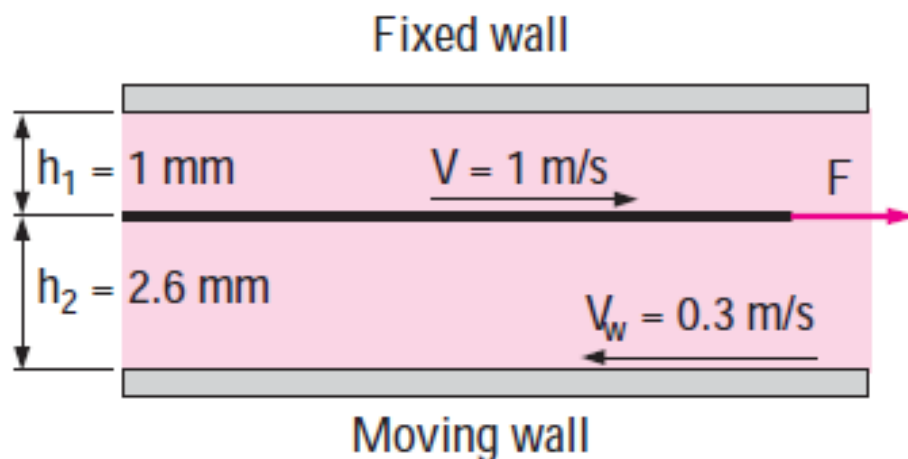

Figure-3
7. A thin 30-cm X 30-cm flat plate is pulled at 1 m/s horizontally through a 3.6-mm-thick oil layer sandwiched between two plates, one stationary and the other moving at a constant velocity of 0.3 m/s, as shown in Figure-3. The dynamic viscosity of oil is 0.027 Pa · s.